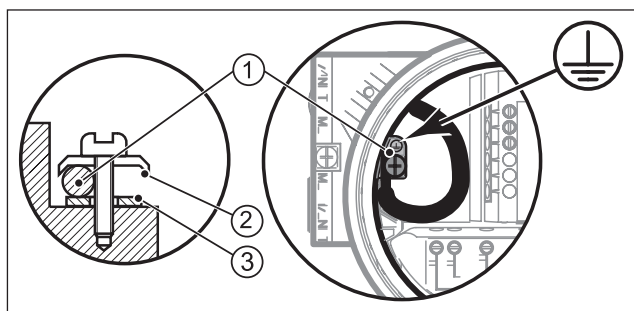

Fig. 2.6 Earth wire connections
- \* If required, mount earth wire (1) between top (2) and bottom (3) ring of earth wire connection (see figure 2.6).